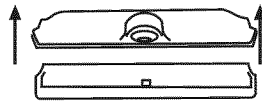

Figure 2.
2. Put water storage bin aside in a flat surface and remove the lid pulling it up (see figure 2).